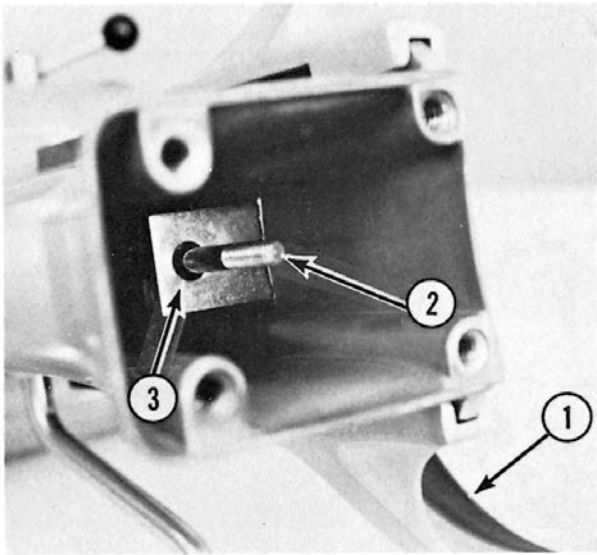

Fig. 5-5
C. With the bowl support (1, Fig. 5-5) at its bottom position, line up the bowl lift rod (2, Fig. 5-5) with the hole in the bracket (3, Fig. 5-5).